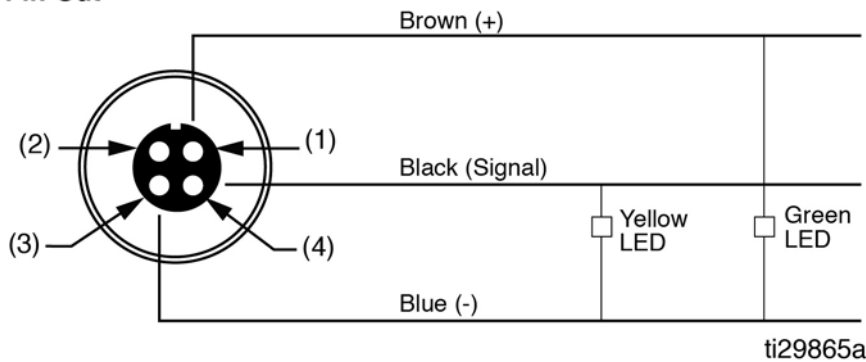

FIG. 2
2. Connect flying leads. Refer to FIG. 2.